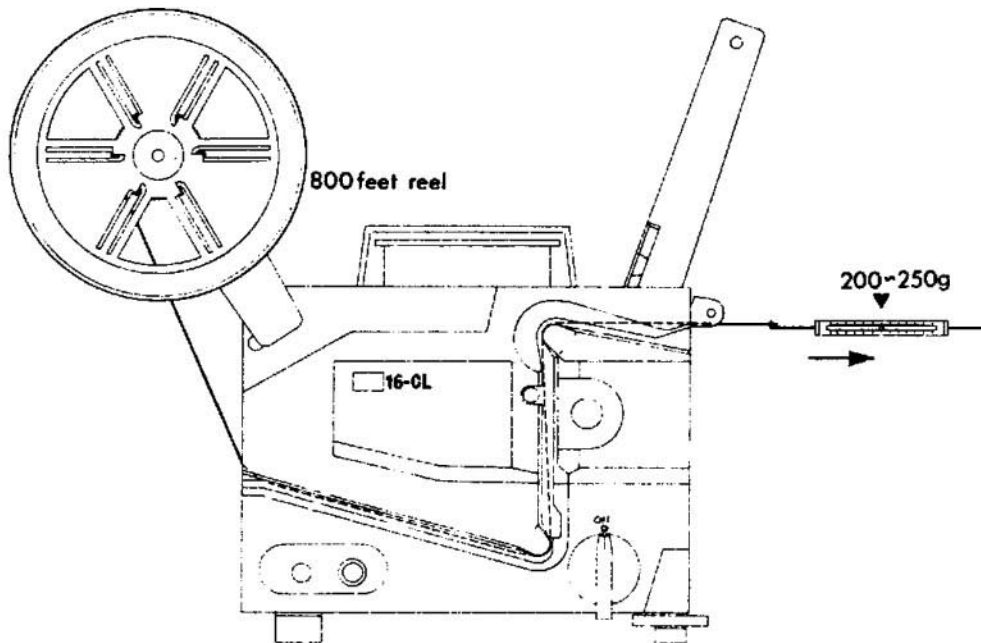

Fig. 19
- (1) As illustrated in Fig. 19, set Main Knob (Fig.1-22) at "OFF" position. And wind film on attached 800 ft Reel through Channel, and turn the reel for about 10 times by hand.
- (2) While pulling out the film in the direction of the arrow illustrated in Fig. 19, measure the tension by a tension gauge. The tension is to be 200-250gr.